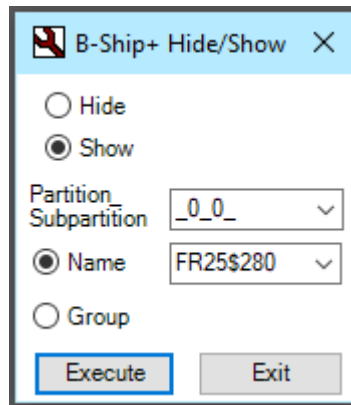

Figure 159
- Clicking on the icon triggers a window shown in Figure 159.